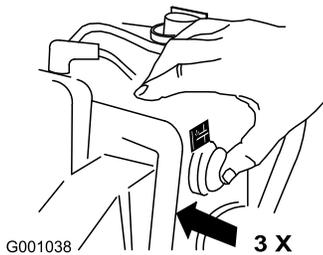

Figure 28
- Firmly push in the primer 3 times with your thumb, holding the primer in for a second before releasing it each time (Figure 28).